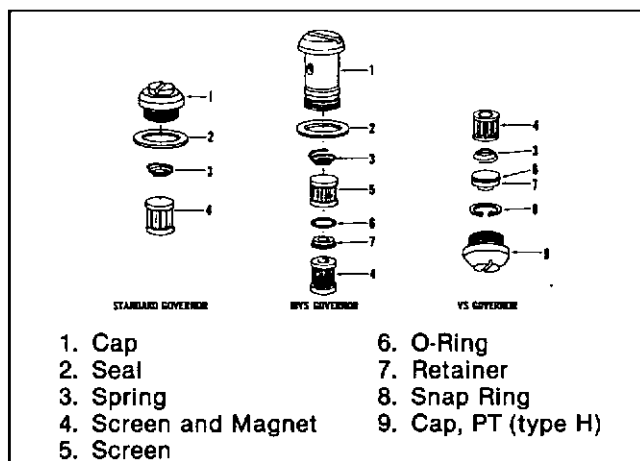

Fig. 7-1, (F5183). Fuel filter screens.
1. The screen assembly for the standard pump mounts in the top of the fuel pump housing. Fig. 7-1.